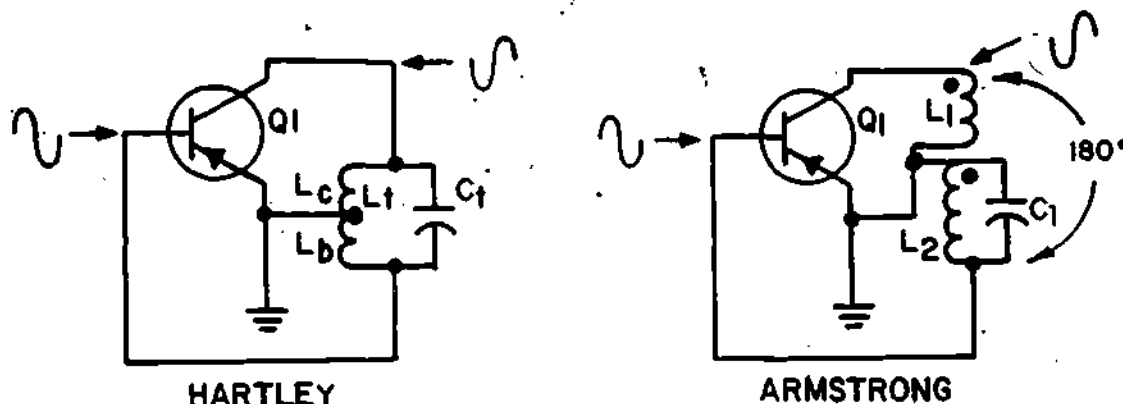

Figure 6
- ⑪ The simplified AC equivalent schematics shown in Figure 6 are for a Hartley and an Armstrong oscillator.
Notice that in the Armstrong oscillator feedback is accomplished by transformer action. The output signal from the collector of Q1 is transformer coupled from L1 to L2 and back to the base of the transistor. In this case the transistor produces the necessary 180° phase shift and this, combined with the transformer 180° shift, produces a total shift of 360° . Phasing dots have been shown on the Armstrong schematic to show equivalent circuitry. Reversing the connections on L1 and L2 will prevent the circuit from oscillating. Now look at the Hartley oscillator shown in Figure 6. In this case, the primary